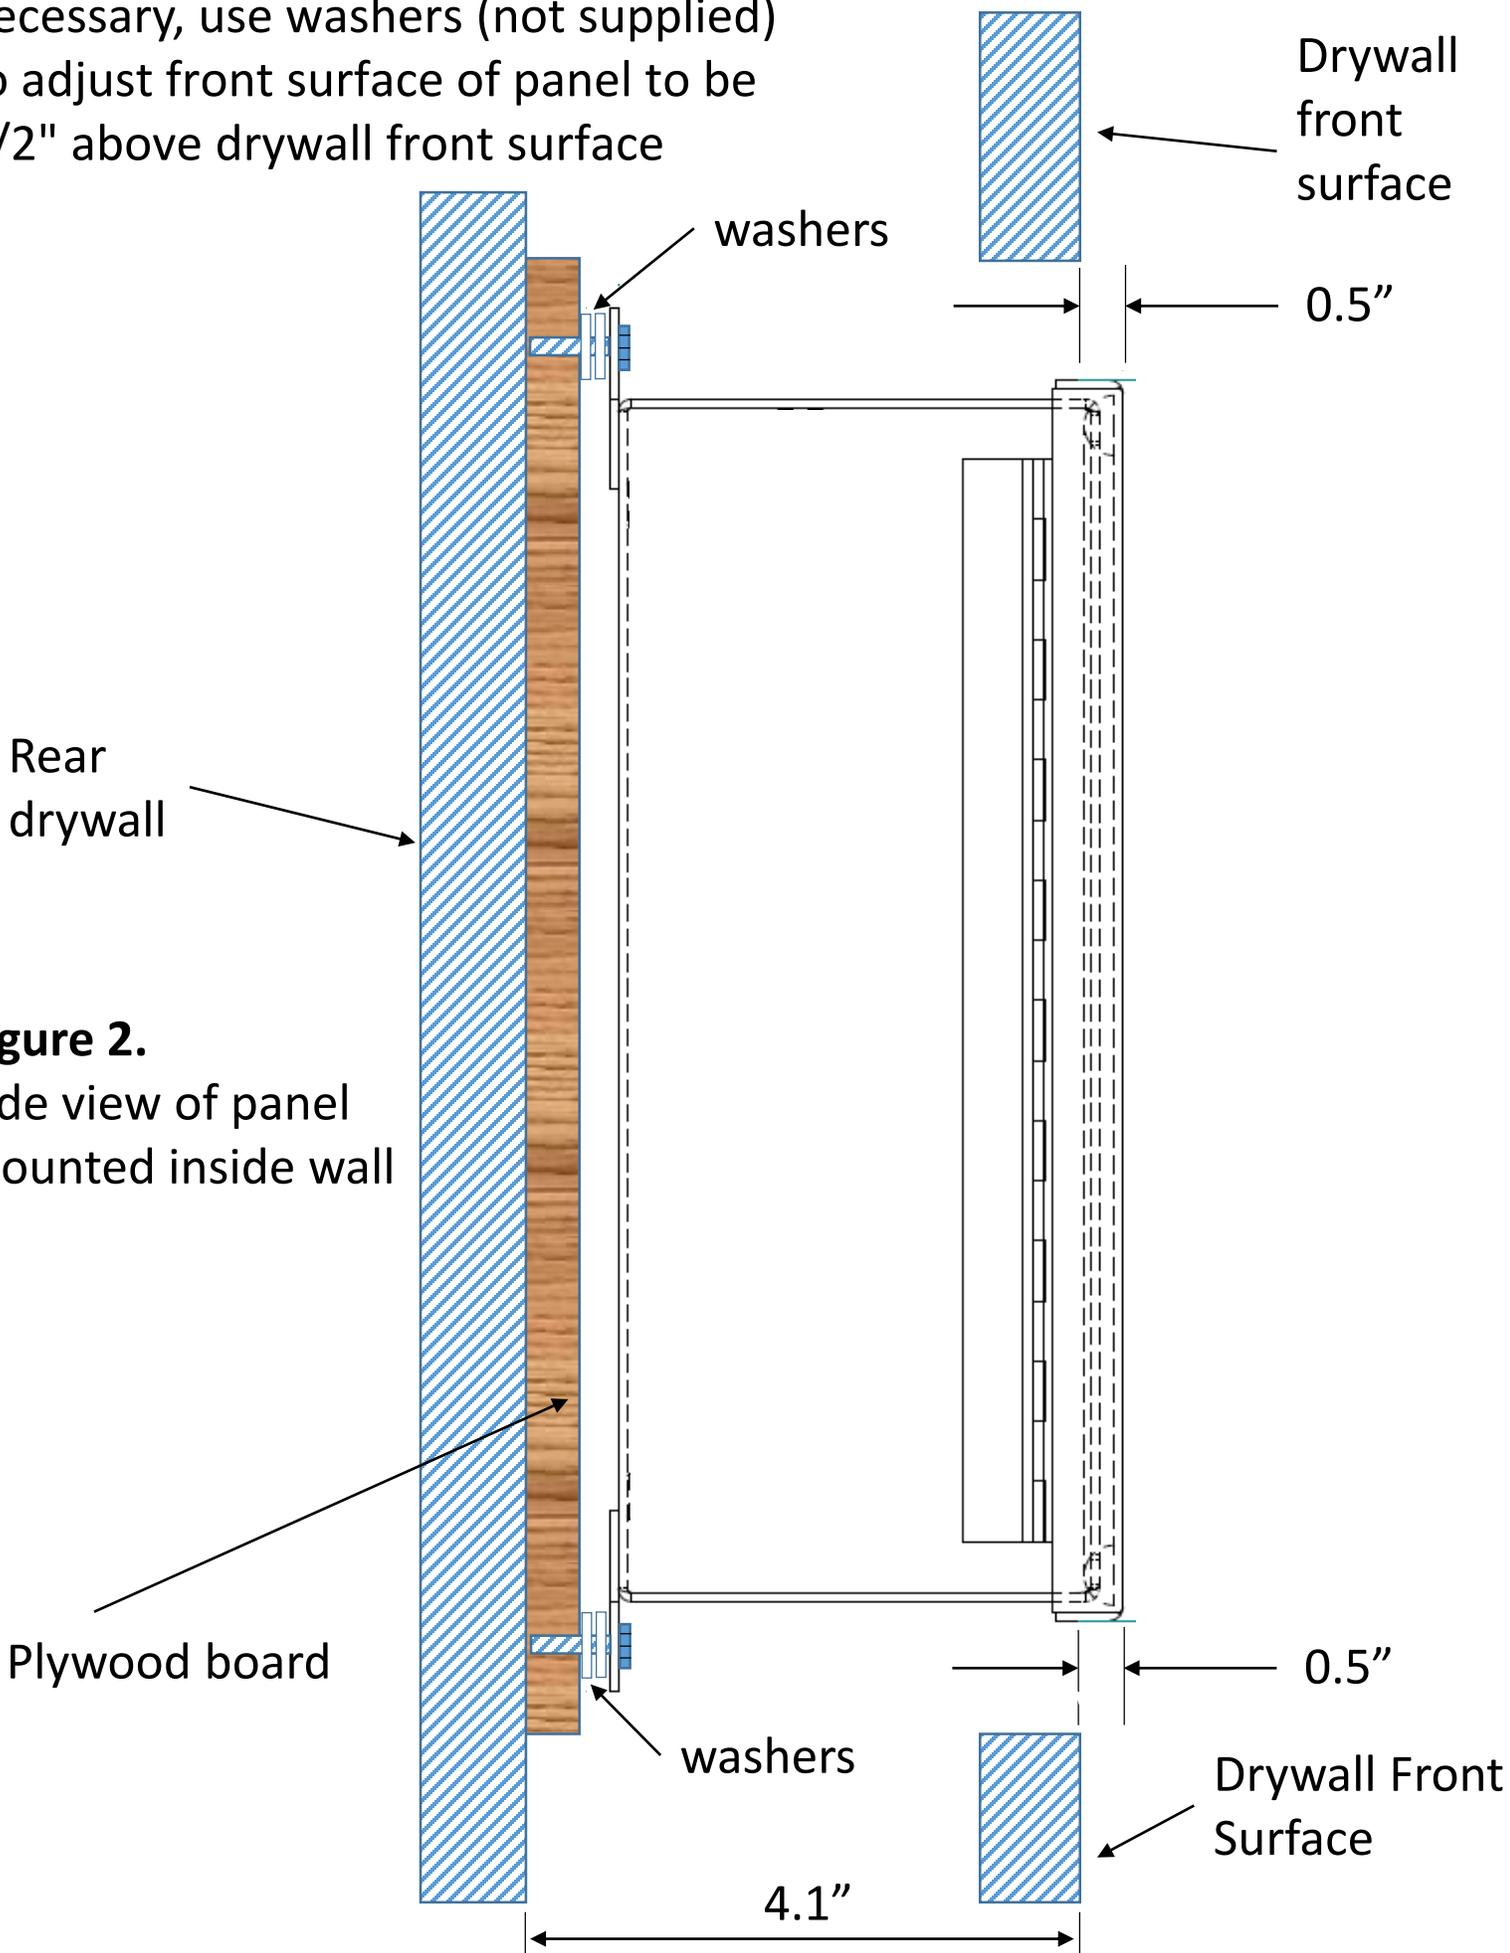

Figure 2.
2. See figure 2. Cut an opening in the wall that is 12" H x 10"W. **CAUTION: Confirm that there are no electrical wires, pipes or other fixtures inside the wall that may be damaged before cutting this opening.**
3. Mount a ¼" thick plywood board to the back wall using some small drywall screws (1" length) and some glue to secure the board. The board dimensions should be 12" H x 8" W. The plywood board can be thicker than ¼" if space permits, but the intent is to be able mount the panel so its front door surface protrudes ½" beyond the outer front surface of the drywall or else the trim will not fit properly. Figure 2 shows details. Use washers as necessary to adjust the mounting depth.
Mount panel so surface is 0.5 inches above drywall surface (see figure 2)